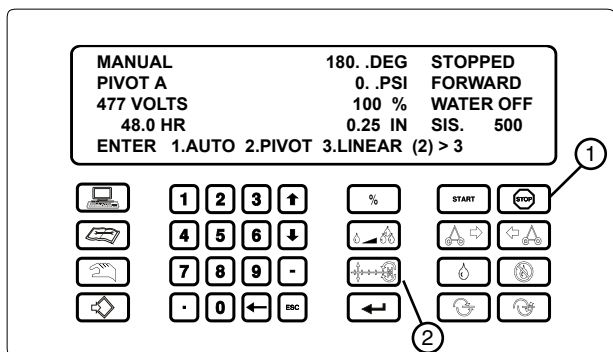

Figure 76-4 1. Stop Key 2. Pivot/Linear Key
8. Press  to stop the machine at the end of the pivot zone. See figure 76-4.
9. Press  and **3** to return the machine to the linear mode. See figure 76-4.